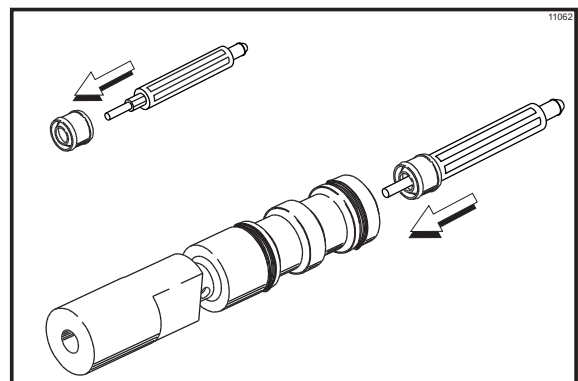

Figure 15
**Important:** Inspect to see that the spinner shaft seal is correctly installed in the groove. A worn, missing, or improperly installed spinner shaft seal will cause product leakage out the top of the draw valve. (See Figure 15)